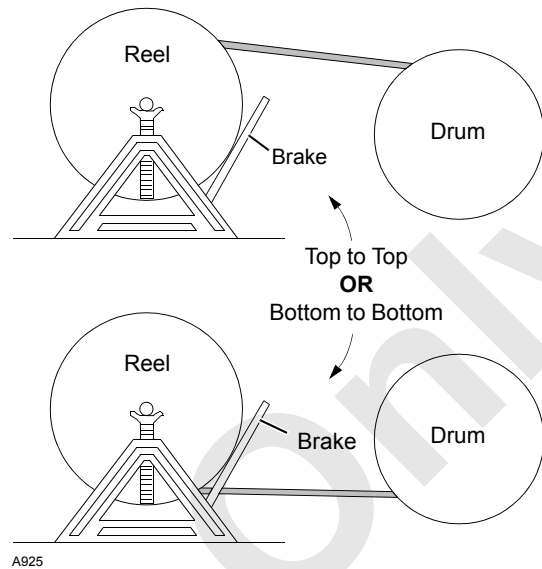

FIGURE 4-34
2. Provide a brake at shipping reel (see Figure 4-34) so wire rope can be wound tightly onto drum.
3. Avoid a reverse bend when winding wire rope onto drum: wind from top of reel to top of drum or from bottom of reel to bottom of drum as shown in Figure 4-34.